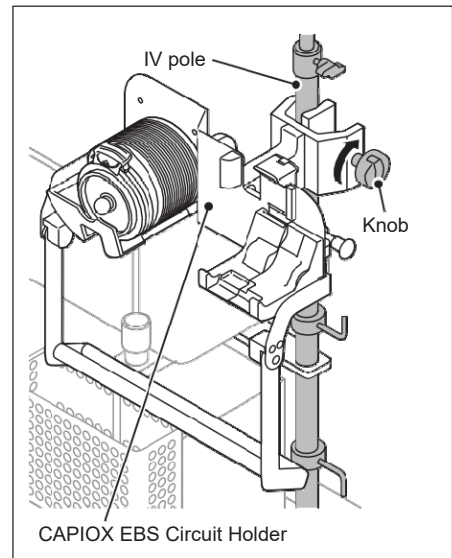

Figure 1-9
3. Attach the CAPIOX EBS Circuit Holder to the IV pole of the Cart and secure it with the knob. (Figure 1-9)